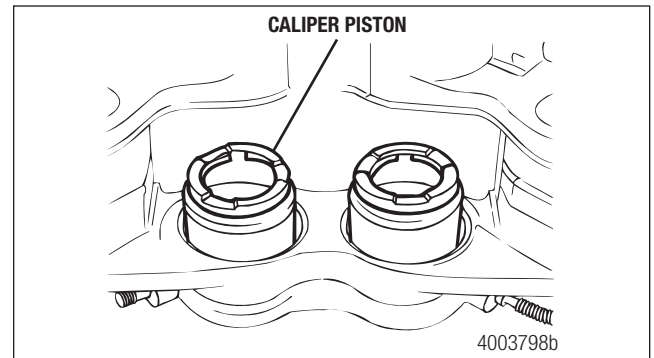

Figure 6.2
8. Align the piston to the bore for installation. The piston is a tight clearance fit and must be square to the bore during this operation to avoid binding. Figure 6.2.